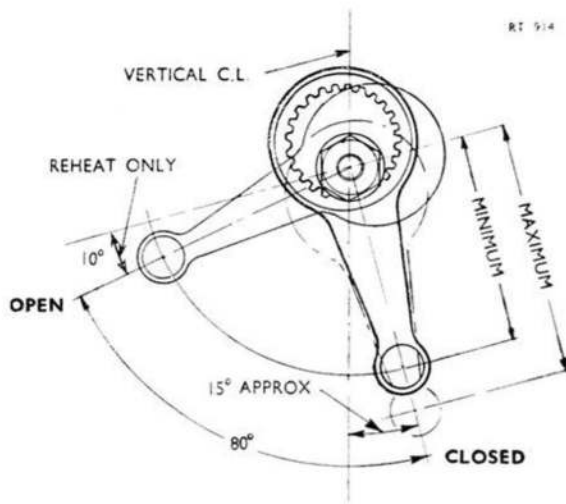

Fig. 4. Settings for E.C.U. throttle control lever
14. Adaptation of the engine throttle lever to the aircraft throttle linkage may require the engine lever being repositioned on the splined hub. The engine throttle assembly permits adjustment of the lever for length and for maximum travel (fig. 4). Should adjustment be necessary, it is essential that the engine throttle lever travel is limited only by the engine throttle stops and not by the throttle linkage. A ball-end, of the type specified for the particular installation, must be fitted to the control lever.